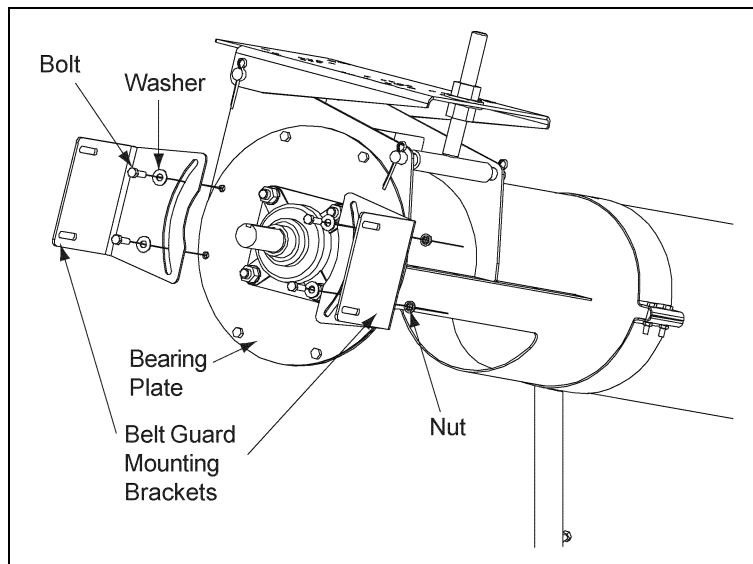

Figure 4I
- B. Secure the Brackets with proper bolts, flat washers, and Serrated flange nuts. (See Chart Below), (See Figure 4I)